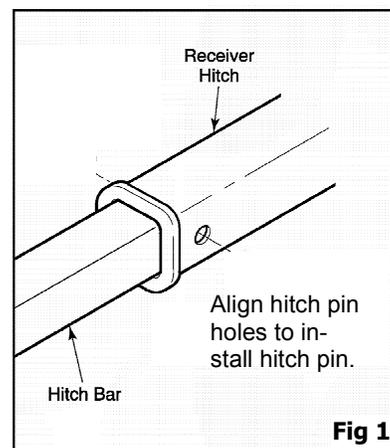

Fig 1
- Place hitch bar into vehicle's 2" receiver hitch, aligning hitch pin holes. **See Fig 1.** Locate the hitch pin from the hardware kit and install it into the hitch. It is not necessary to install the Hitch-Coupling Tightener at this point unless you plan on using your frame immediately.